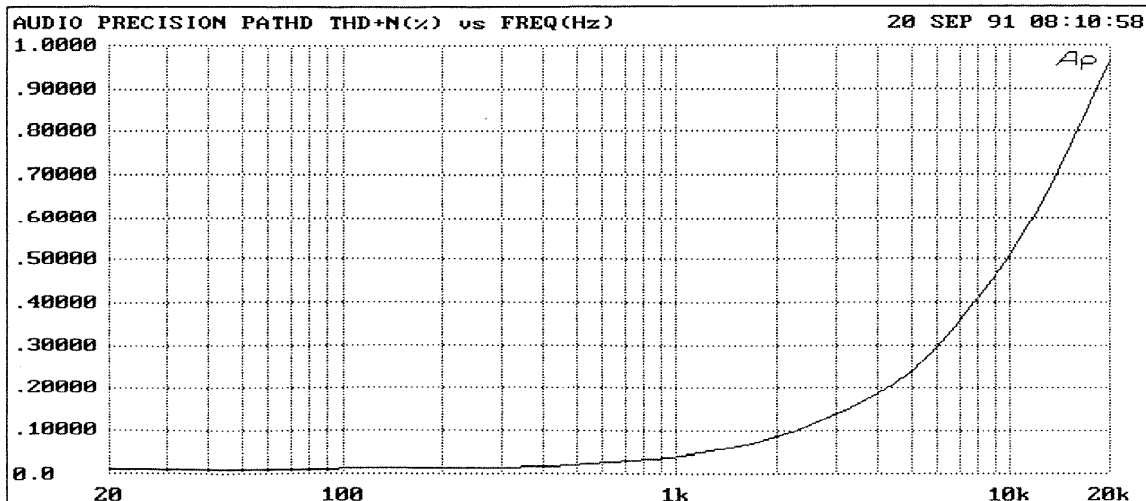

Figure 5: THD vs. Frequency at full power (575W/8Ω)
1) Distortion at 575 watts per channel should be less than 0.5% (see Figure 5).